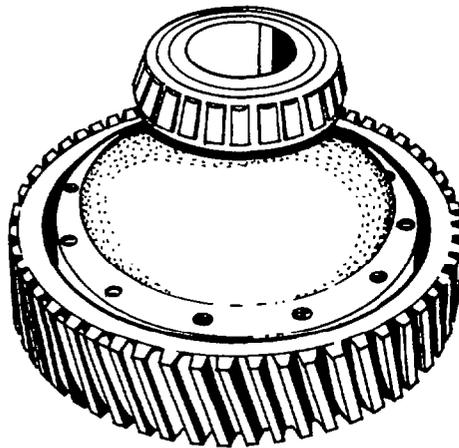

Fig. 332 — Aligning Side Casing and Cage Assembly
- h. Align and position the side casing onto the cage assembly using the match marks made when disassembling the power divider (see fig. 332).